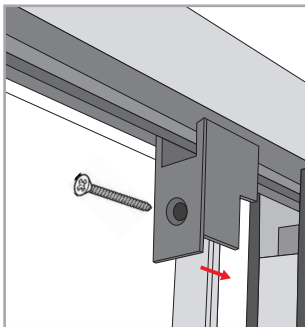

Figure 23: Installing the front side track guide.
- Step 9** - Screw the front side track guide in place to install as shown in Figure 23.